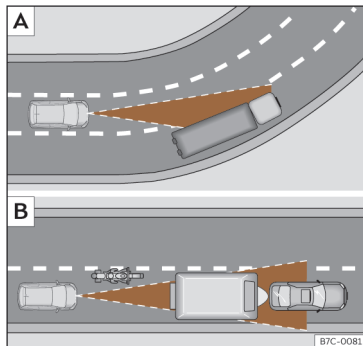

Fig. 133 **A** Vehicle on a bend. **B** Motorcyclist ahead, out of range of the radar sensor.
The ACC may not detect the vehicle in front on a curve, or may regulate the distance from vehicles in other lanes >>> Fig. 133 [A].
- Vehicles that are not aligned while driving or that are outside the sensor's detection area, such as motorcycles >>> Fig. 133 [B].